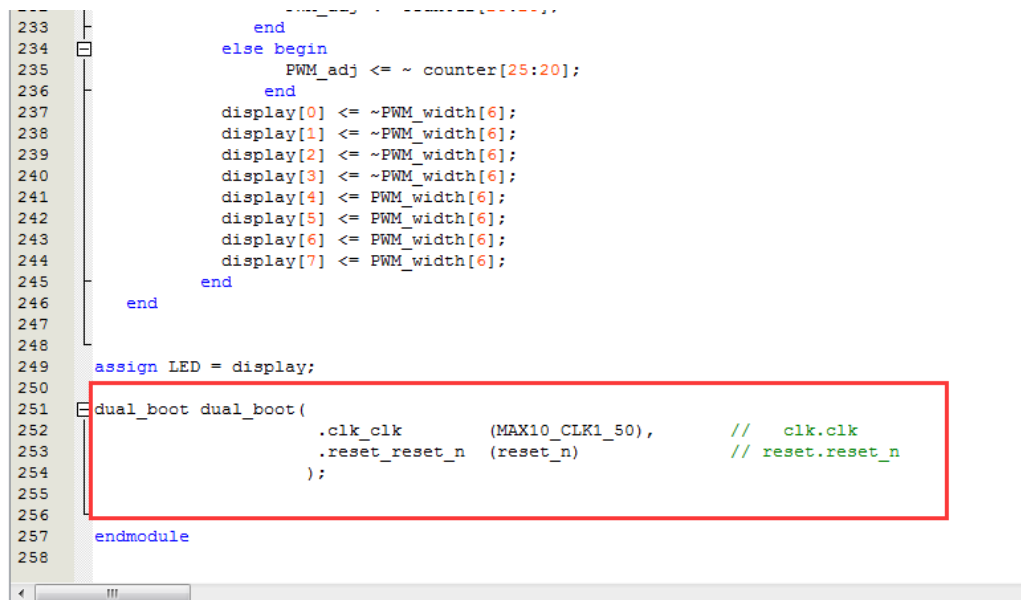

Figure 8-10 Input verilog Text
6. Click **Close** and **Finish** to return to the window and add the dual boot qsys into the top file as shown in **Figure 8-10**.